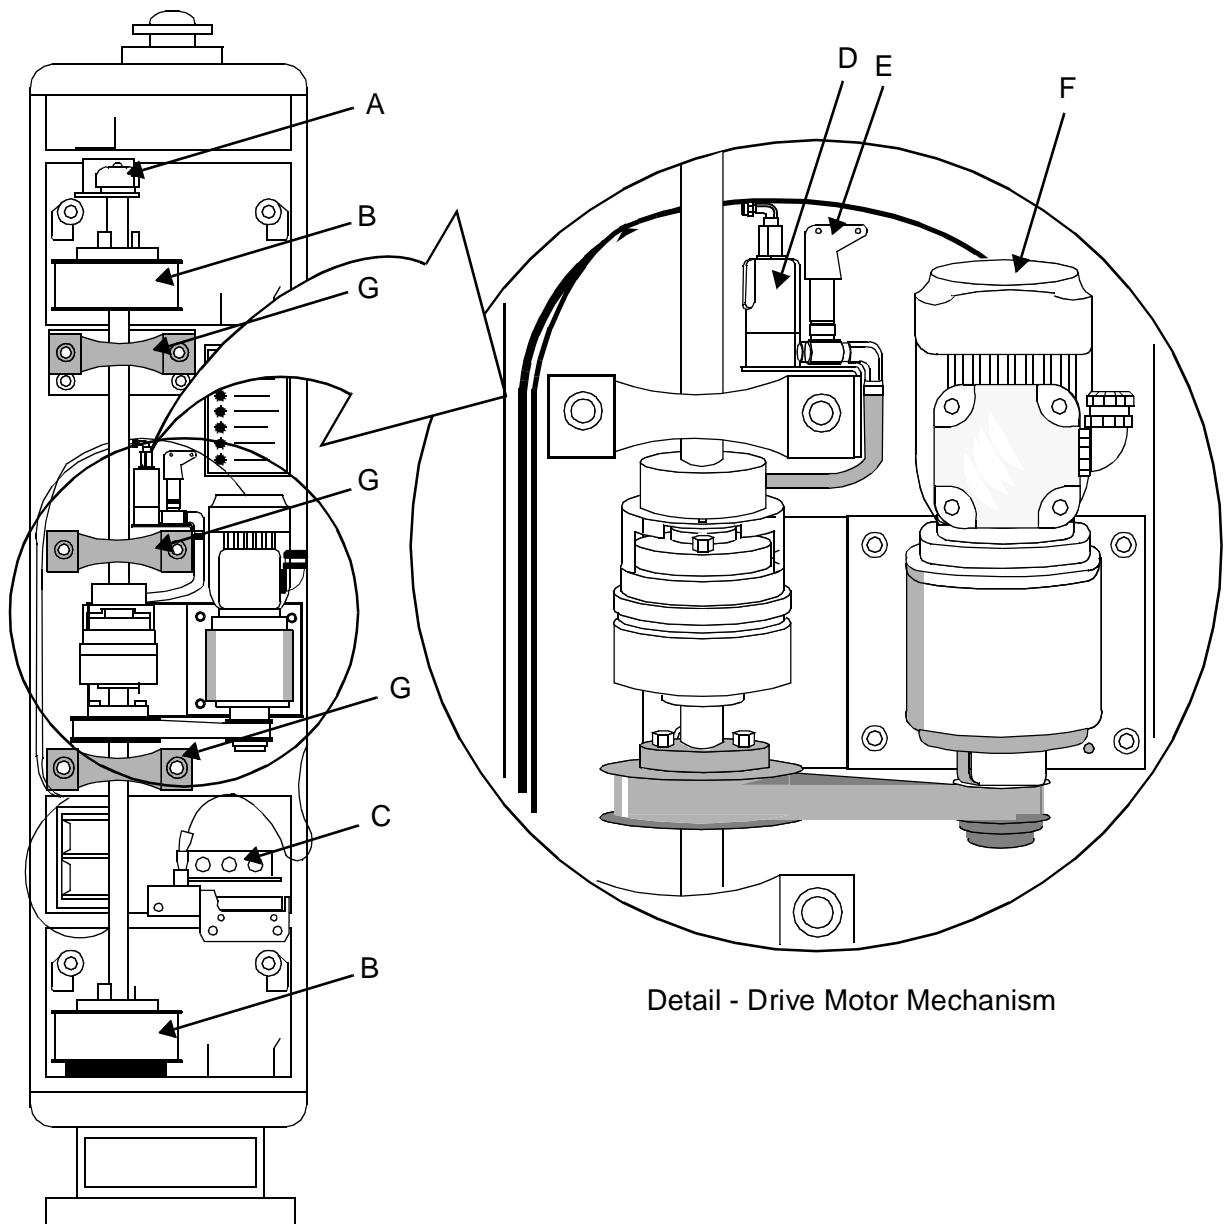

Figure 10-16 Drive End Column Parts
Complete the following procedure to replace the Encoder. See Figure 10-16 on page 215.
- Figure 10-16 on page 215